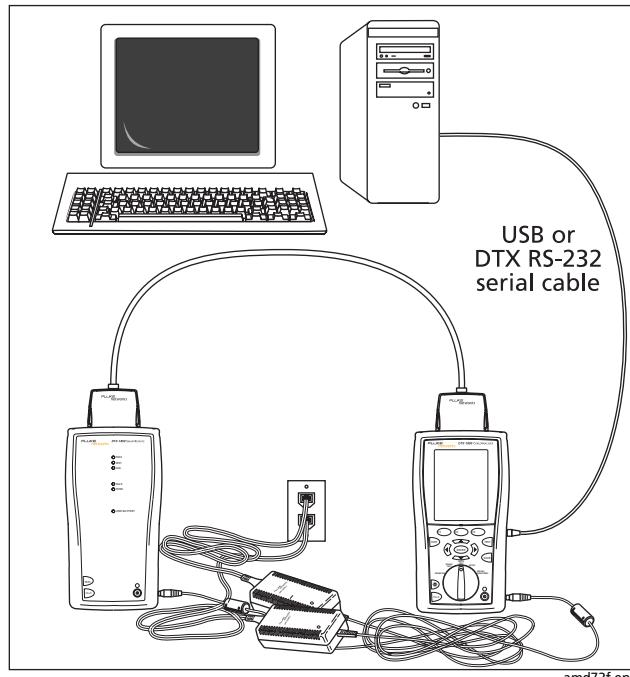

Figure 29. Updating the Software with a PC
- 3 Make the connections shown in Figure 29 using the USB or DTX serial cable. (The USB connection, if available, is faster.) Turn on the tester and the smart remote.